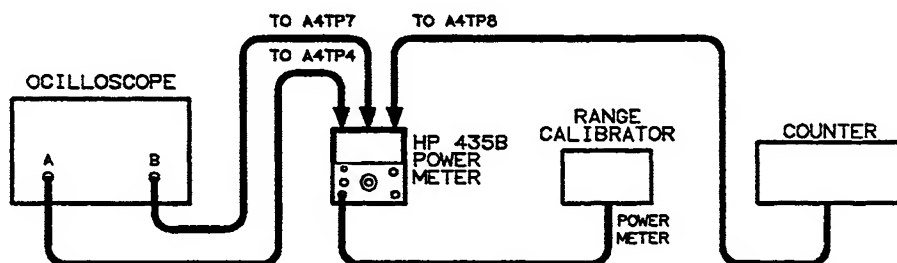

Figure 5-2. Multivibrator Adjustment Setup
2. Connect the equipment as shown in Figure 5-2.